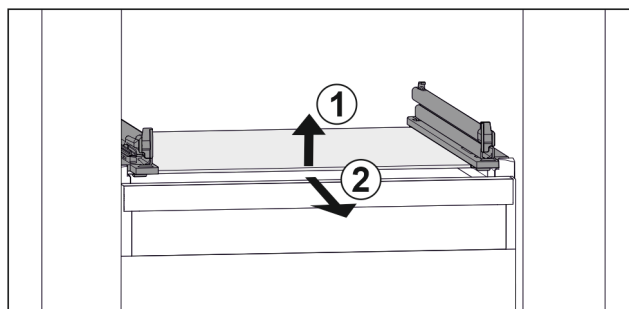

Fig. 44 Example illustration of glass shelf
- ▶ Lift glass shelf at the front. Fig. 44 (1)
- ▶ Take out glass shelf to the front. Fig. 44 (2)